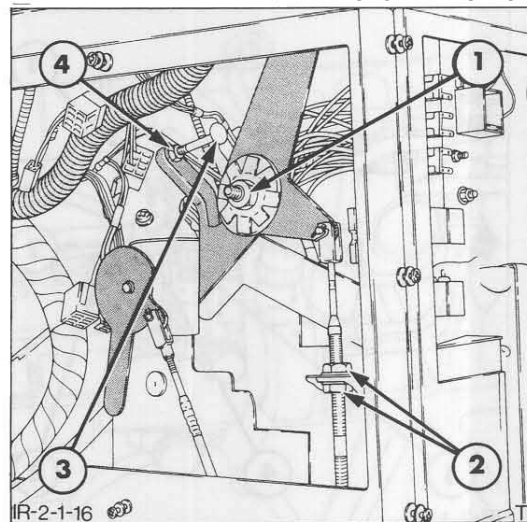

Figure 16
2. Loosen the cable locknuts at the hand throttle bracket, Figure 16.
9. Position the hand throttle lever against the lever stop bolt, Figure 16. Ensure the fuel injection pump lever is on the maximum no-load stop screw.
12. Check the effort required to move the hand throttle lever from idle to maximum no-load speed position using a spring balance. Attach the spring balance to the lever and, whilst keeping the spring balance at 90° to the lever, pull on the balance. Compare the effort recorded with the specified figures, see "Specifications" – Chapter 8. Adjust the lever retaining nut, Figure 16, to obtain the specified effort.